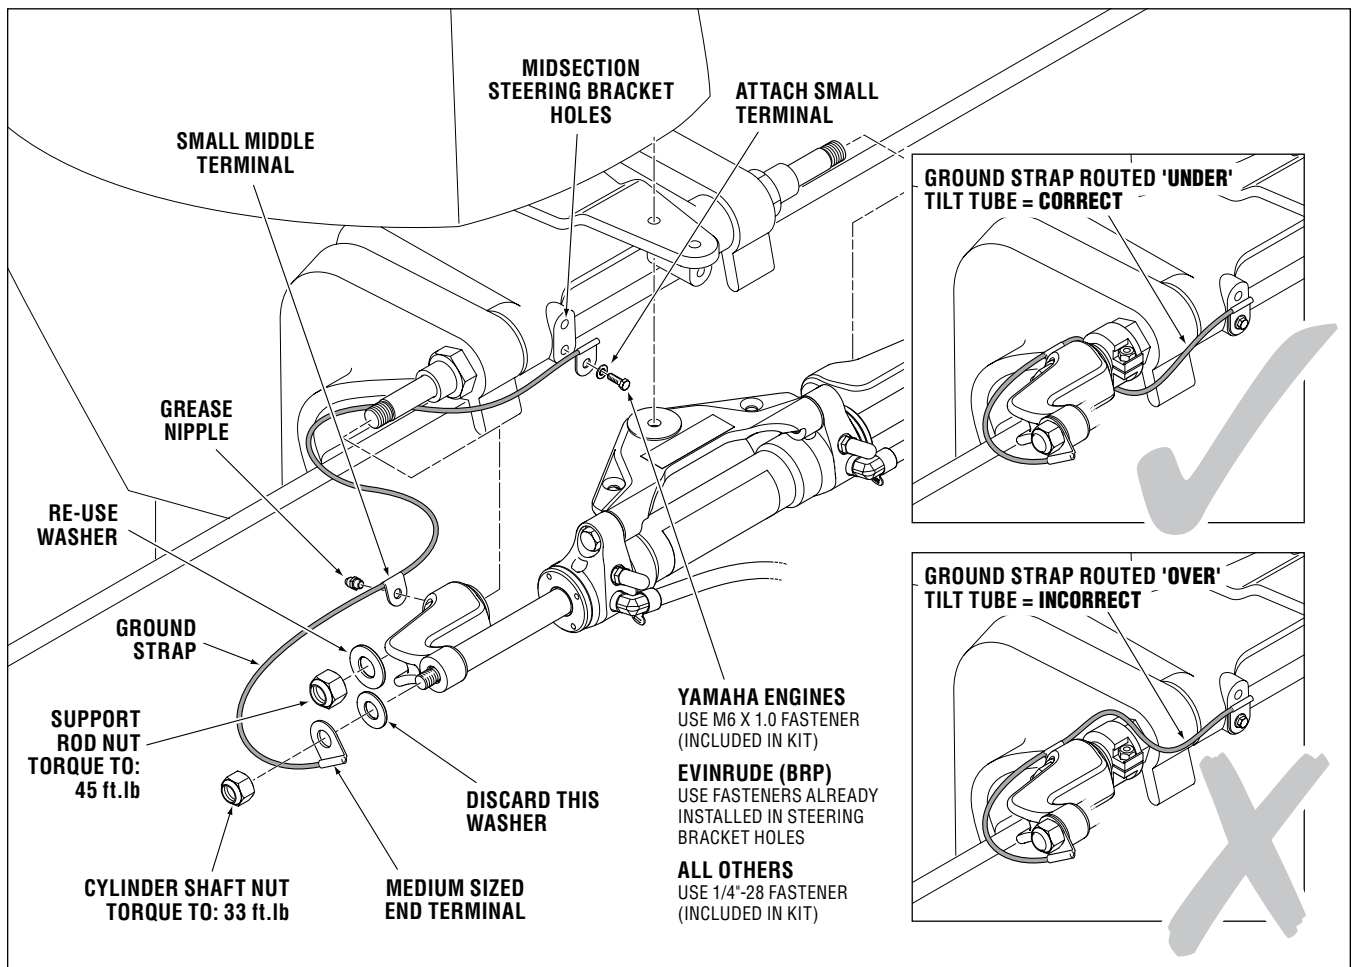

Figure 11. Ground Strap Installation.
- Install ground strap to cylinder as per figure 11.